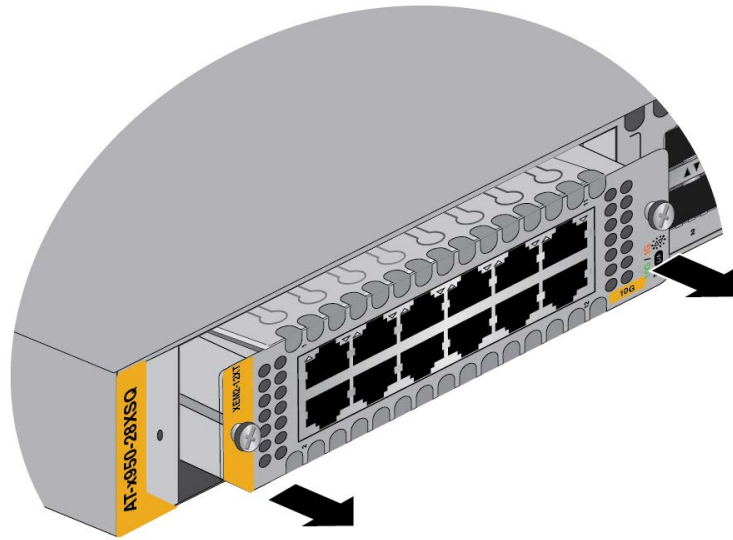

Figure 139. Disconnecting the XEM2 Line Card from the Switch
5. Carefully pull on the screws on the faceplate to disconnect the line card from the internal connector in the switch. Refer to Figure 139 on page 250.